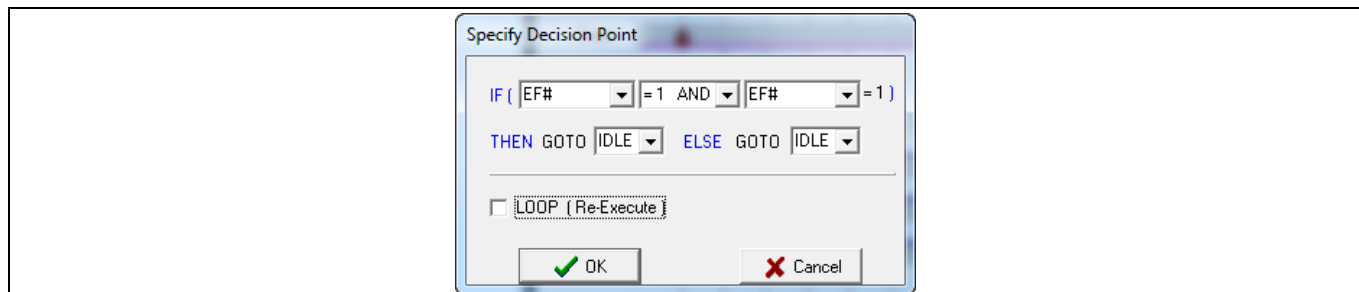
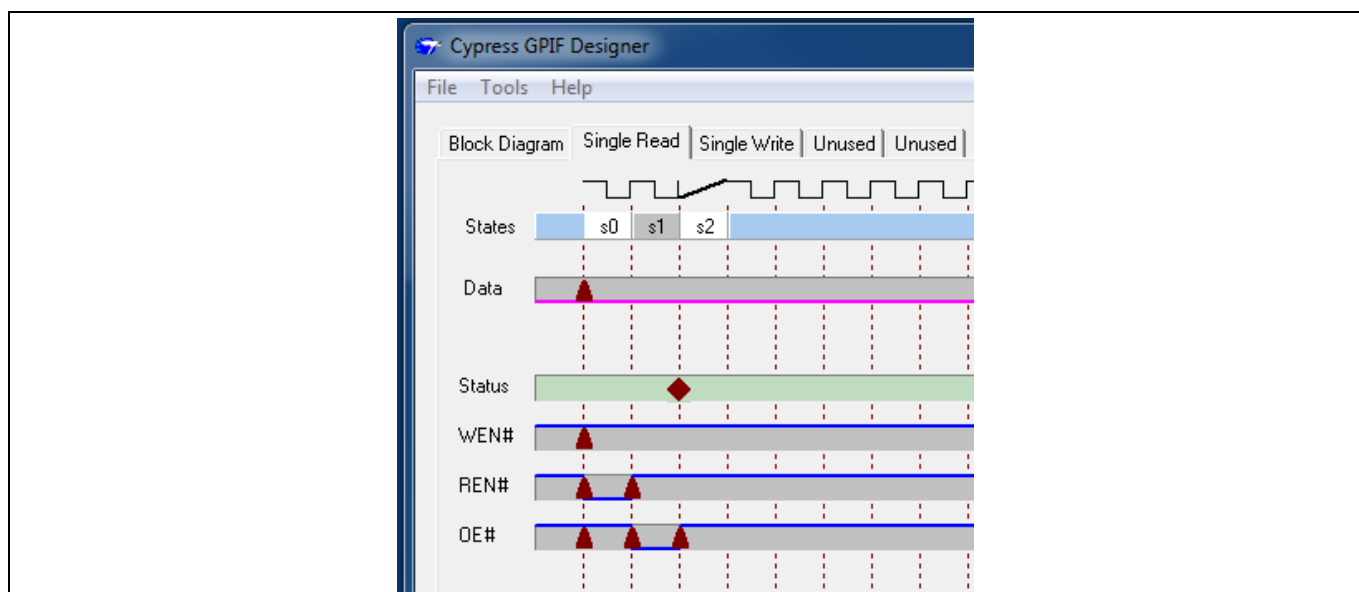

Figure 49 Unconditional Branch to IDLE
Figure 50 State s2 Added
4. Add a decision point (DP) state by clicking the Status band on the clock ending s1. This creates the state S2 and pops up the “Specify Decision Point” dialog box. Configure this decision point as shown in Figure 49 to unconditionally branch to the IDLE state. The waveforms should look similar to Figure 50.